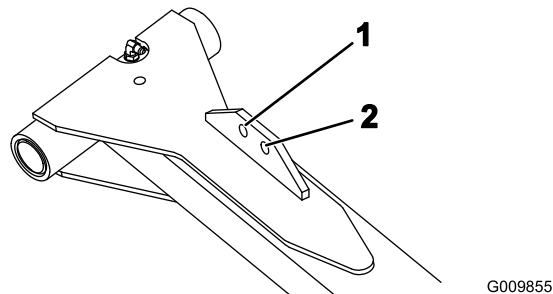

Figure 7
- Secure the other end of the lift chain to the hole in the lift arm mounting tab with clevis pins and cotter pins. Use the appropriate hole in the lift arm as designated in Figure 7.